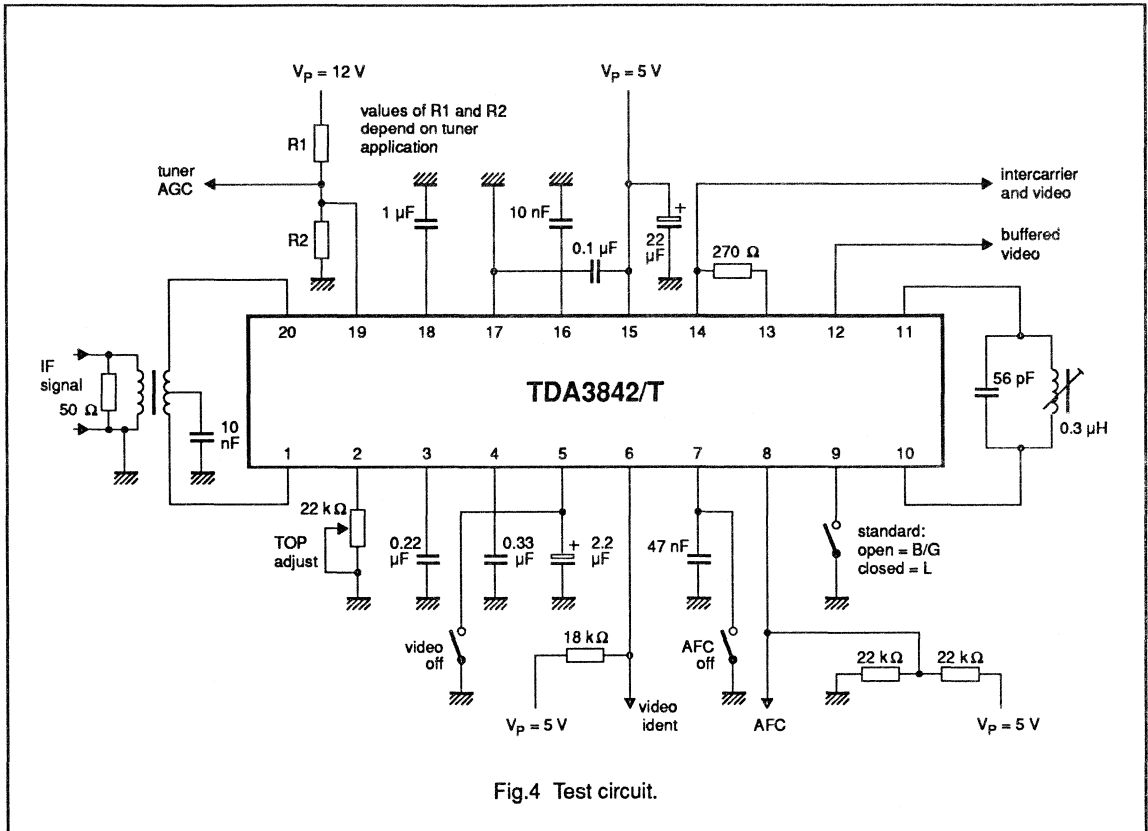

Fig.4 Test circuit.
- In the test circuit of Fig.4, measured and weighted according to CCIR Recommendation 567: